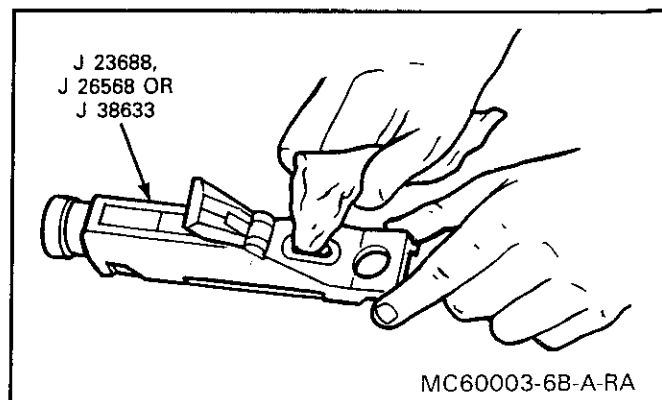

Figure 6 - Cleaning the Coolant Tester
- Before each use, swing the plastic cover at the slanted end of J 26568, J 23688 or J 38633 exposing the measuring window and the bottom of the plastic cover (Figure 6).
Refer to Figures 6, 7, and 8